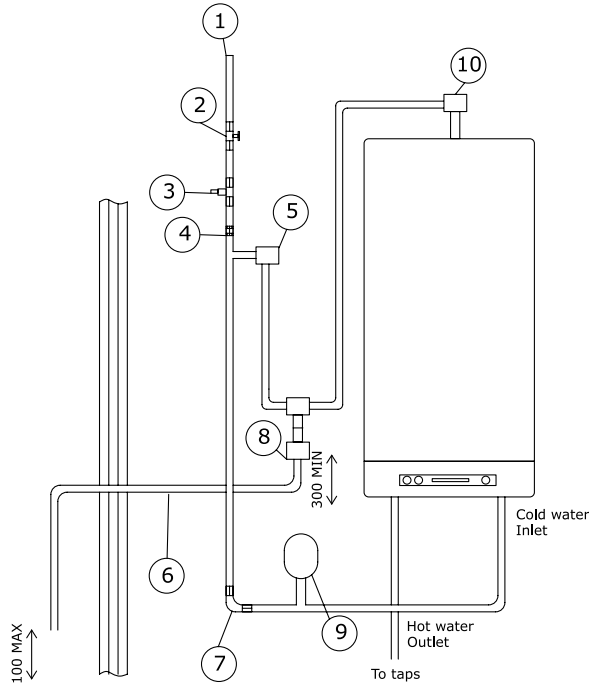
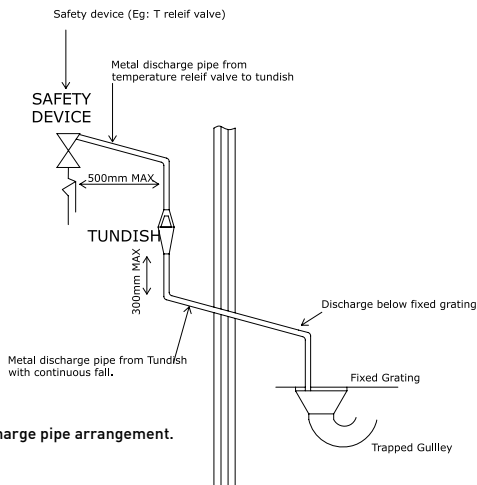

Fig 1
Fig 2 - Typical discharge pipe arrangement.
3.7. Pipework connections – All Pipework connections to the cylinder MUST be made in accordance with Fig1.
4.1. Connections. Connections **MUST** be made to the cylinder in accordance with Fig 1, and Fig 2. A drain cock (not supplied) should be fitted in the position shown in Fig 1 to facilitate draining of the cylinder.
The outlet of the T&P valve should be routed in 15mm copper piping in a downward direction alongside the water heating unit to the tundish. The outlet of the expansion relief valve must be T'd into this pipe before the tundish so that any water exiting either valve can be seen draining through the tundish – see fig 2
4.4. Pressure Reducing Valve – The pressure relief valve should be installed in the cold water supply to the water heating unit with the arrow pointing in the direction of water flow as shown in figure 1. This can be connected to a supply pressure of between 1.5 and 9 bar.
4.5 Expansion Relief Valve this must be installed between the pressure reducing valve and the water heating unit in accordance with Figure 1. No other valve should be fitted between this valve and the cylinder. The expansion relief valve contains a non return valve.
IMPORTANT: Regular checks must be carried out to ensure that the expansion vessel is correctly pressurised to 3 bar at all times. The expansion vessel should be installed using a standard t-connector between the expansion relief valve and the cylinder – see Figure 1.
- 7.4. Drain the cylinder – When draining the cylinder, always switch off the boiler and the heating element first. Turn off the water supply at the stopcock (see Fig 1). Connect a hosepipe to the drain cock (see Fig 1) and route it to a convenient gully. Open the drain cock and all hot taps that are served by the cylinder. The cylinder may take several minutes to empty completely.